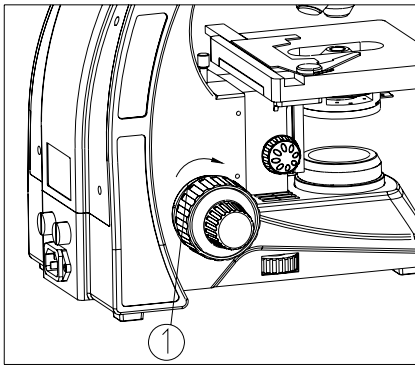

Fig. 11
If the handle is very heavy when focusing or the specimen leaves the focus plane after focusing or the stage declines itself, please adjust the tension adjustment ring ① (see Fig. 11).